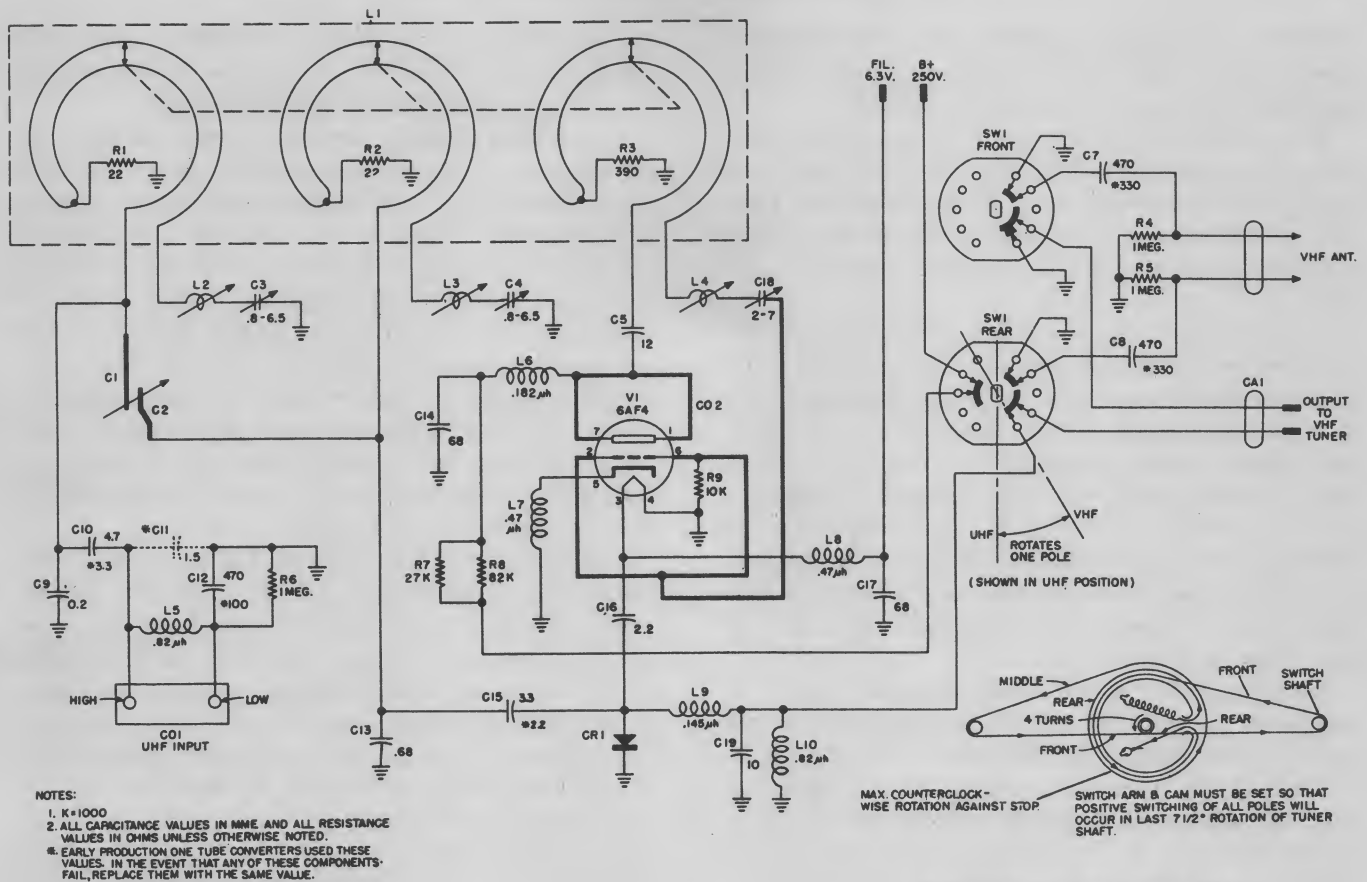
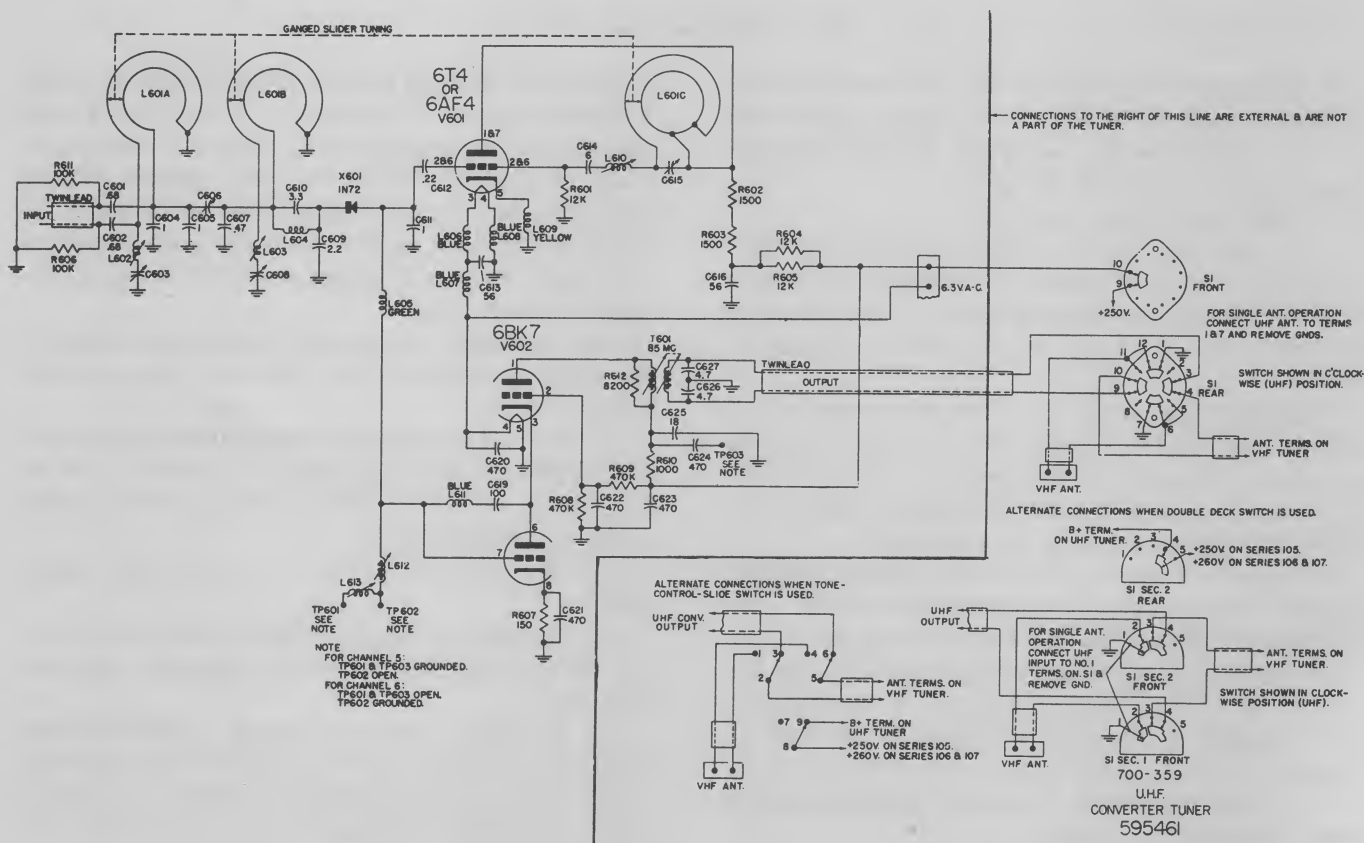

Fig. 9-9. UHF tuner: Crosley 396.
Fig. 9-10. UHF converter: Magnavox.
*b. Shorted Quarter-Wave Concentric Transmission-Line Converter.* Figure 9-9 shows an early model of the Crosley continuous uhf converter. This is a chassis-mounted device which receives the B+ and filament voltage from the receiver. V1, a 6AF4 tube, is used as the oscillator. It feeds its signal to the crystal mixer, CR1, which also receives the uhf channel signal. The difference frequency in the output of the crystal is coupled to the vhf tuner, which has been set to receive either Channel 5 or 6 (which ever is not used in the area).
The uhf antenna is connected to the uhf input terminals on the converter (CO1 in Fig. 9-9). The vhf antenna is brought to the vhf input on the converter. A 300-ohm line is used to connect the output of the converter, CA1, to the antenna input of the vhf tuner. Switch, SW1, in the vhf position throws in the vhf antenna, through CA1, to the vhf receiver. In the uhf
Figure 9-10 is the diagram of a Magnavox converter that also uses a shorted quarter-wave concentric line for continuous tuning over the uhf band. The diagram in Fig. 9-10 shows (in addition to a preselector, crystal mixer, and oscillator) V602, a 6BK7, used as a first i-f amplifier. This cascode amplifier takes the signal from the mixer. After amplification, the signal is coupled to the vhf tuner, which is set on Channel 5 or 6. Except for the inclusion of V602 and its tuned input and output circuits, operation of this circuit is similar to that shown in Fig. 9-9.
A concentric knob drives the main shaft and provides a 6:1 step-down ratio for ease in tuning. The uhf signal is converted to a first i-f of Channel 5 or 6 (depending on the location). The choice of conversion channels is determined by the service technician and is accomplished by connections to test points on the converter. See the note on Fig. 9-10, which explains the proper connections for using Channels 5 or 6.